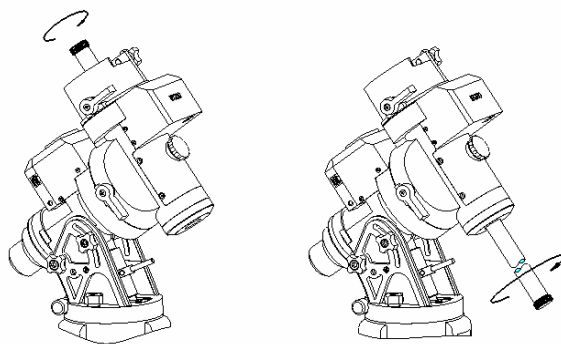

Figure 4
4. **Install Counterweight (CW) Shaft:** Unscrew the CW shaft from the top of the mount (Figure 4 left) and thread it into the opening of the DEC axis (Figure 4 right).